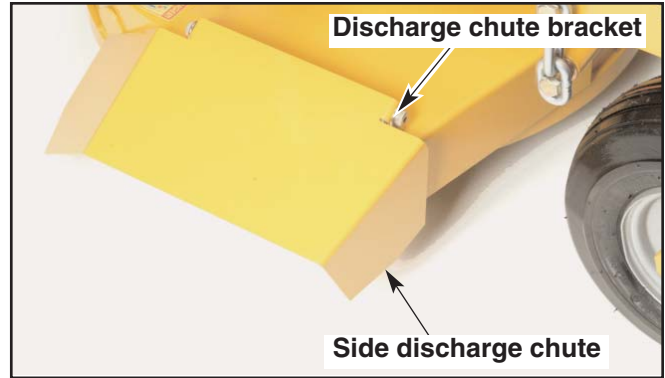

Figure 1
2. Remove the side discharge chute and discharge chute bracket. Fig. 1